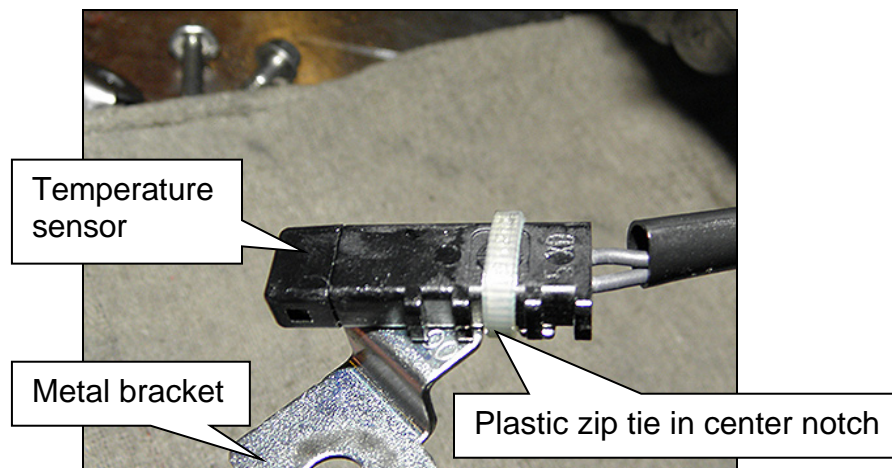

Figure 6
- a. Cut the plastic zip tie with an appropriate tool to remove the temperature sensor bracket from the terminal harness assembly (Figure 6).